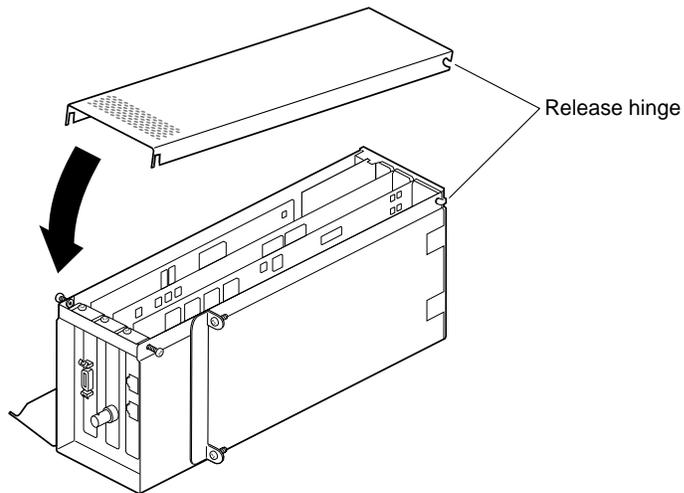

Figure 4-18 Placing the Door on the PCI Module
6. Place the hinged door on the PCI module, as shown in Figure 4-18.